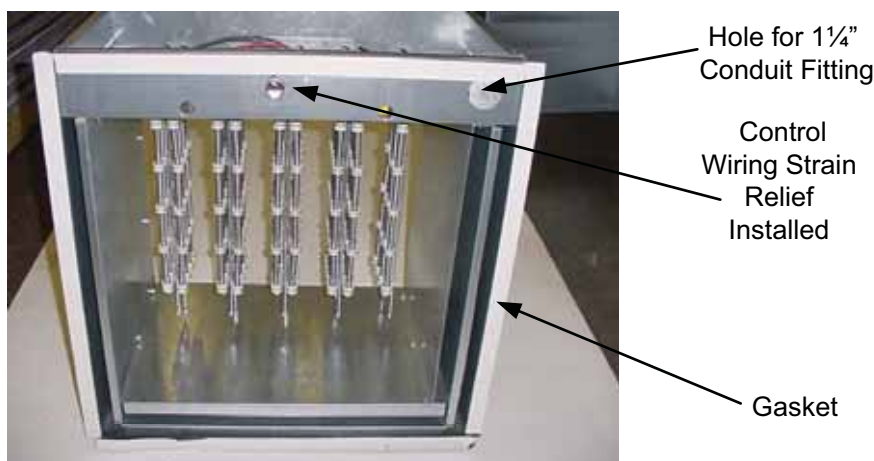

FIGURE 4 - BOTTOM OF HEATER CABINET
5. Install foam gaskets, provided in the kit (See Figure 4) on bottom of both heater cabinets.